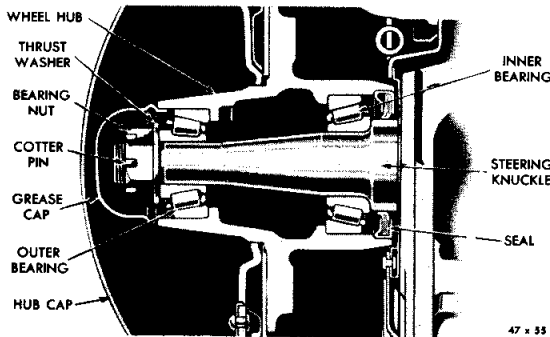
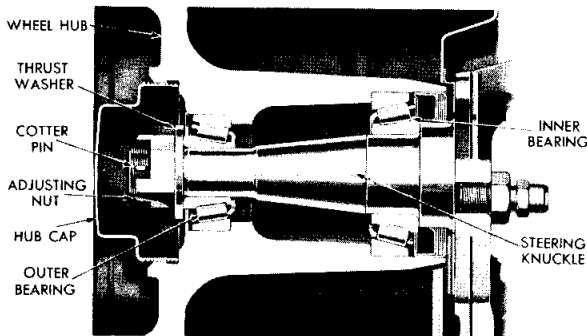

Fig. 1—Sectional View of Typical Front Wheel Assembly (B-4-B, B-4-C, B-4-DU)
Fig. 2—Sectional View of Typical Front Wheel Assembly (B-4-D, B-4-EU)
- (1) Raise the front end of the truck with a jack until the wheel clears the floor or ground and remove the hub cap. Pry off the cap (Fig. 1), or unscrew the hub cap (Figs. 2, 3 and 4).